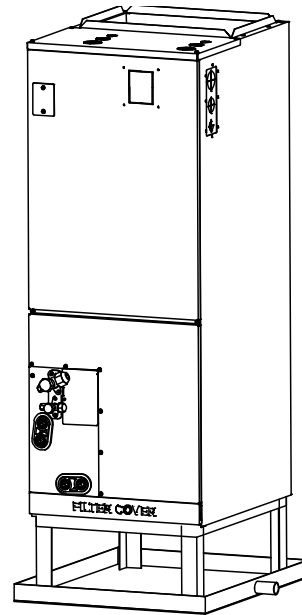

Fig. 5 —Vertical Up Installations
- Allow sufficient space for airflow and unit servicing. See Fig. 5 — on page 6 for the minimum required distances between the unit and the walls or ceilings.
The air supply and return may be handled in one of several ways; whichever situation is best suited for the installation (See Fig. 5 — on page 6). A large number of issues encountered with split-system installations can be linked to improperly designed or installed duct systems. It is therefore very important that the duct system be properly designed and installed.